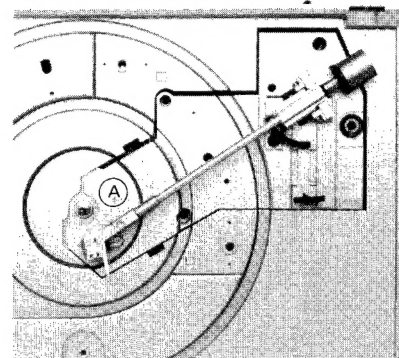

Fig. 13
4. Move the tonearm in direction of the center spindle as shown in Fig.13.
2. Set the tonearm as in Fig. 13.
**Note:** When remounting the feet (1) - (4), mount the feet having slipproof at the front side.